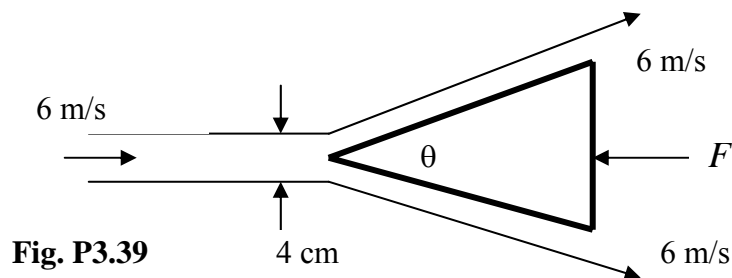

Fig. P3.39
3.39 A wedge splits a sheet of 20°C water, as shown in Fig. P3.39. Both wedge and sheet are very long into the paper. If the force required to hold the wedge stationary is $F = 126 \text{ N}$ per meter of depth into the paper, what is the angle θ of the wedge?